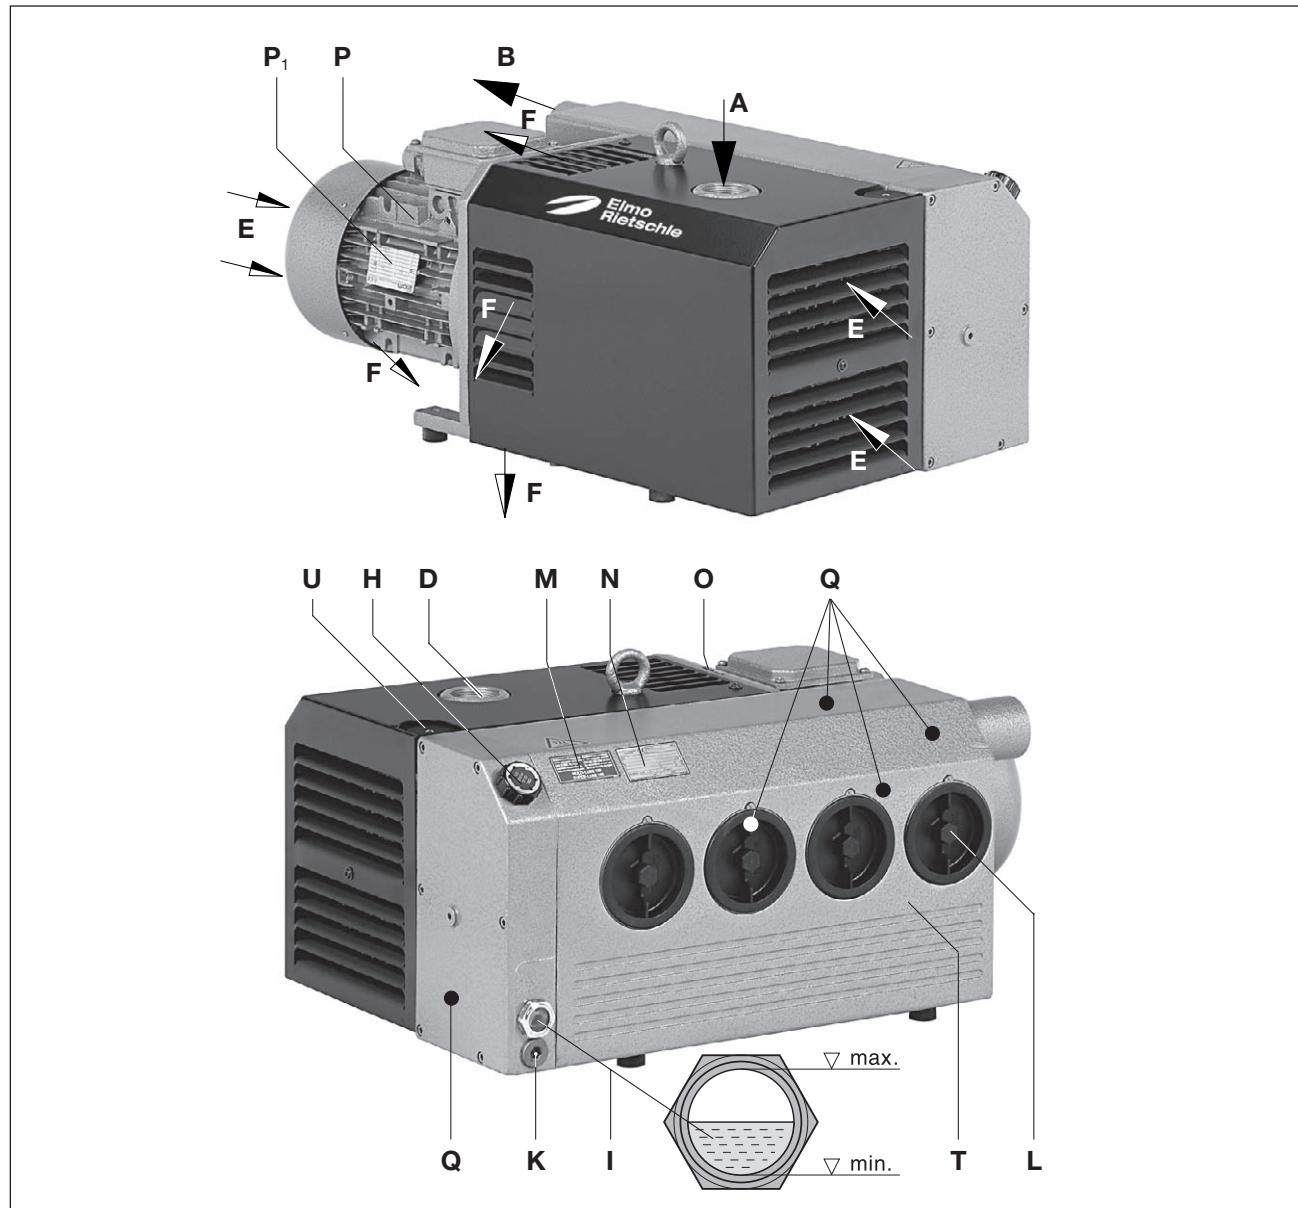

Fig. 2 Vacuum pump V-VC 50 - V-VC 150
A gas ballast valve fitted as standard (Fig. 2/U) prevents condensation of water vapour in the inside of the pump when low amounts of steam are sucked in when the pump is at operating temperature. A reinforced gas ballast (optional) can be used if there is a higher amount of water vapour.
The suction flange (Fig. 2/D), oil filling point (Fig. 2/H), oil sight glass (Fig. 2/I), oil outlet (Fig. 2/K), gas ballast (Fig. 2/U) and the oil removing device housing (Fig. 2/T) must be easily accessible.
The cooling air inlets (Fig. 2/E) and the cooling air outlets (Fig. 2/F) must be at least 30 cm away from adjacent walls. Cooling air coming out must not be sucked in again.
Sealing or constricting of the exhaust air outlet (Fig. 2/B) may lead to severe or fatal injuries!
- a) The vacuum connection (Fig. 2/A) can be found on the suction flange (Fig. 2/D).
- b) The discharged air can be freely blown out through the exhaust air hole (Fig. 2/B) or conducted away using a hose or pipe.
- a) Fill the lubricating oil (for suitable types see the "Maintenance" section) via the oil filling point (Fig. 2/H) up to the upper edge of the sight glass (Fig. 2/I).
- a) The motor's electrical data is given on the data plate (Fig. 2/N) or on the motor data plate (Fig. 2/P₁). The motors comply with DIN EN 60034 and are in protection class IP 55 and insulation class F. The appropriate connection diagram is located in the motor's terminal box (not for the plug connection version). Compare the motor data with the data of the existing mains network (current type, voltage, network frequency, permitted current value).
When the machine is at operating temperature the surface temperatures on the components (Fig. 2/Q) may go above 70°C.
- ▷ The drive shaft direction of rotation is shown by the rotation direction arrow (Fig. 2/O) on the motor flange.
- b) After correcting the direction of rotation if necessary, start the motor again and stop it again after 2 minutes in order to top missing oil up to the upper edge of the sight glass (Fig. 2/I). This topping up at the filling point (Fig. 2/ H) must be repeated until all the oil pipes have been filled completely. The filling point must not be open when the pump is running.